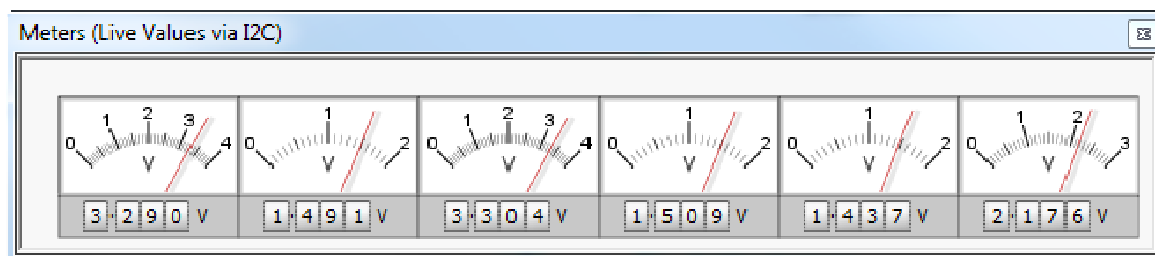

Figure 18 · Meters Window
17. In the MPM GUI, select **View > Meters**. The window shown in Figure 18 should appear.